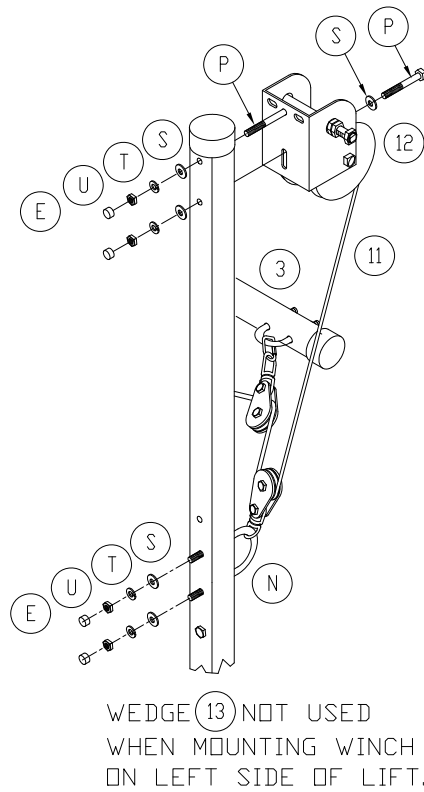

Figure 3-4.
2. Refer to **Figure 3-4**. If mounting winch on the left side of lift, attach it to the left-hand side assembly. The winch wedge is not required in this installation.
5. **Left Side Mounted Winch** – Refer to **Figure 3-4**. Install polymer block on left-hand side assembly by inserting U-bolt through the swivel of the polymer block and attaching it to the side assembly through the lower set of mounting holes.
3. **Left Side Mounted Winch** – Refer to **Figure 3-4**. Feed the wire rope over the front of the drum, through hole in drum flange and under the wire rope clamp with one inch extending past the clamp. Tighten nuts on clamp to hold wire rope in place.